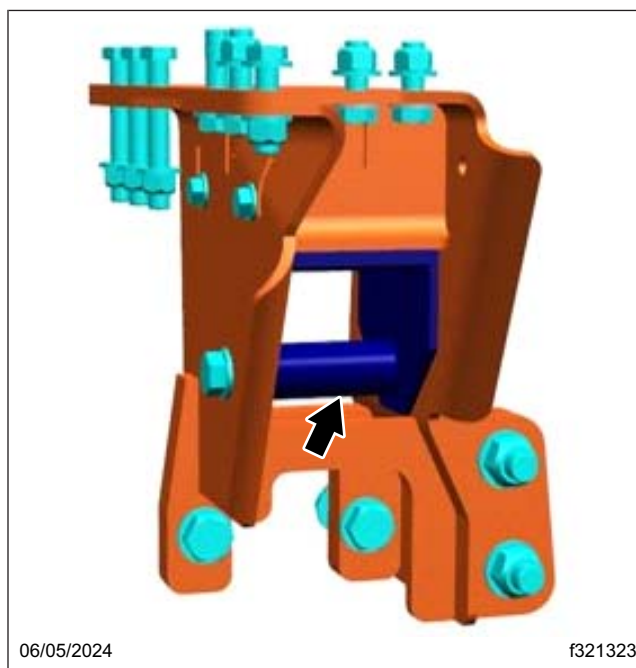

Fig. 7, Wear Pad
10. Install the wear pad inside the new front suspension hanger. Secure it with fasteners and tighten 266 lbf·ft (361 N·m). See Fig. 7.